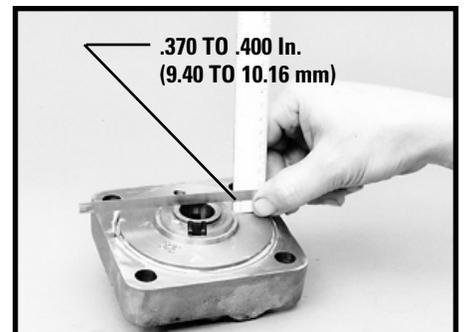

Figure 131
26. Assemble the valve sleeve (14) with attached thrust washer down, into the valve housing (8). SEE FIGURE 130. When the valve sleeve is in place, it should measure between .370 and .400 inches (9.40-10.16 mm) above the face of the valve housing to the end of the valve sleeve nose. SEE FIGURE 131.